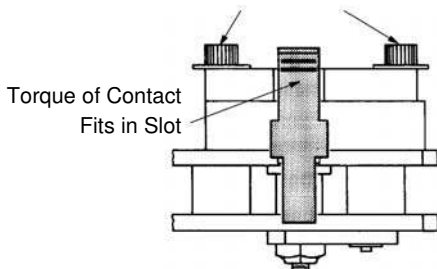

Figure 4
7. Open the tool head, and position the contact in the nest, locating the outer end of the wire barrel (wire-entry end) so that it extends from the nest area between 0.76 to 1.02 mm [.030 to .040 in.] as shown in Figure 4.